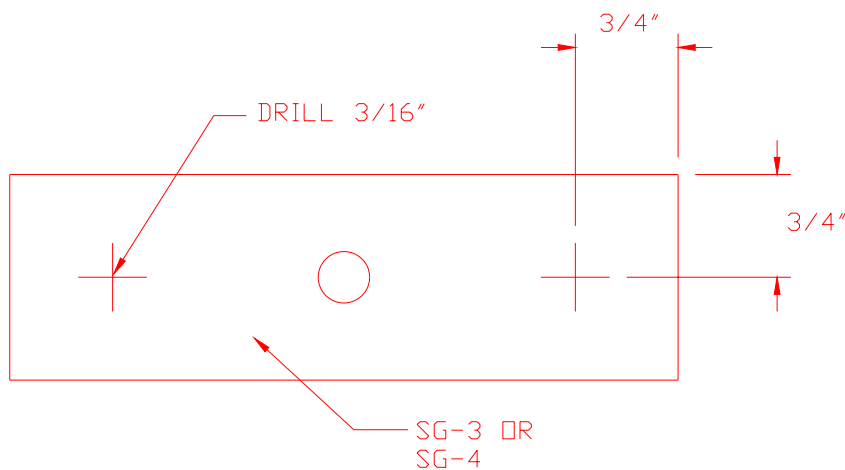

Figure 14.3.5
29) Square the SG-4 bottom plate so it points to the front of the aircraft. Mark holes as per Figure 14.3.5. Drill #11 and rivet with 3/16" (RV-1631) rivets. Repeat for opposite side. **NOTE:** Drill only through the bottom of the tubes.